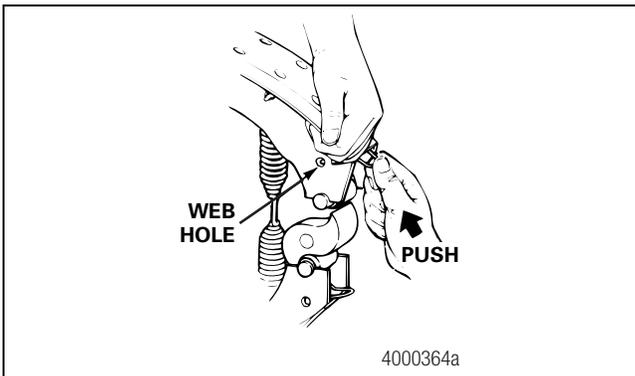

Figure 3.21
6. Push the brake shoe roller retainer into the brake shoe until the ears lock into the shoe web holes. Figure 3.21.